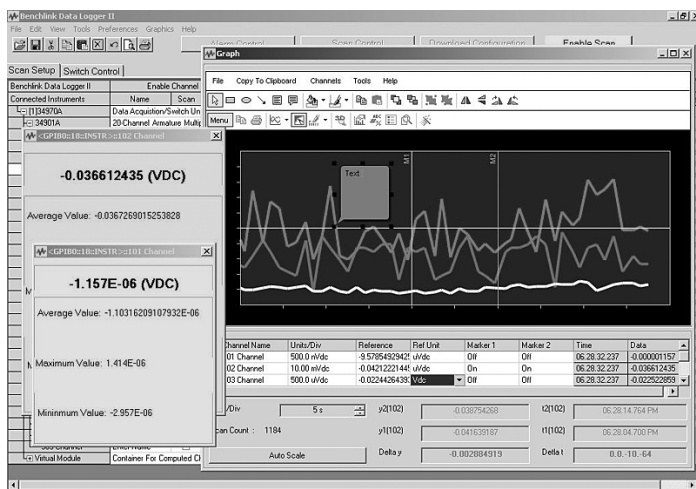

Figure 2. Keysight BenchLink Data Logger provides spreadsheet-like test set up and real-time display and analysis of measurements
- **BenchLink:** This low-cost application is available in versions that support numerous instruments. BenchLink is a Windows®-based application (Figure 2) that uses a familiar spreadsheet format to streamline data collection, presentation and analysis. It can communicate with measurement instruments via LAN, USB or GPIB using the included I/O software.